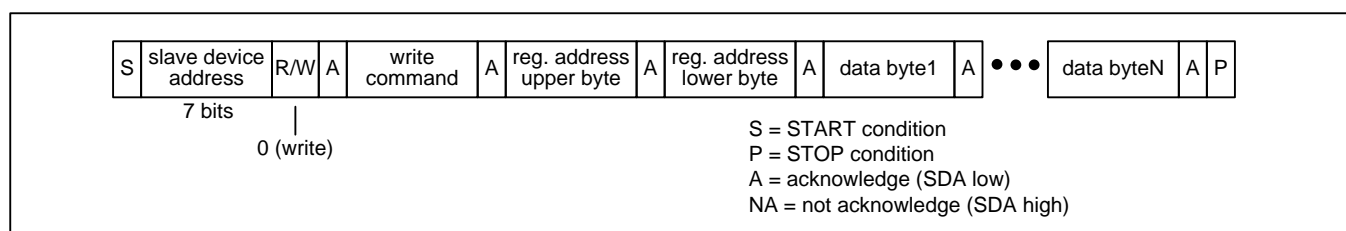

Figure 9 - I²C Register Write Transaction Functional Timing
Register Write Transactions. The device registers are accessible when the **EESEL** bit is 0. The bus master does an I²C write to the device. The first three bytes of this transaction are the SPI Write command (see Table 3), the upper byte of the register address, and the lower byte of the register address. Subsequent bytes are data bytes to be written. After each data byte is received, the device writes the byte to the write address and then increments the write address. The bus master terminates the write with a STOP condition (P). See Figure 9.